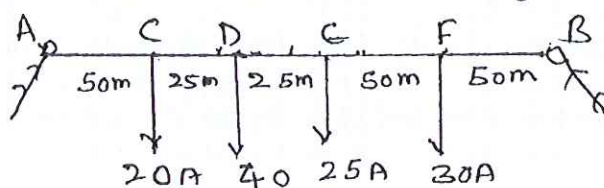

Fig Q8(c)
- c. A distributor AB is fed from both ends. At feeding point A the voltage is maintained at 235V and at B 236V. The total length of feeder is 200m and loads are as shown in Fig Q8(c). The resistance per 100meters of one conductor is 0.04 $\Omega$ . Calculate the current in various sections of the feeder and the minimum consumer voltage. (10 Marks)